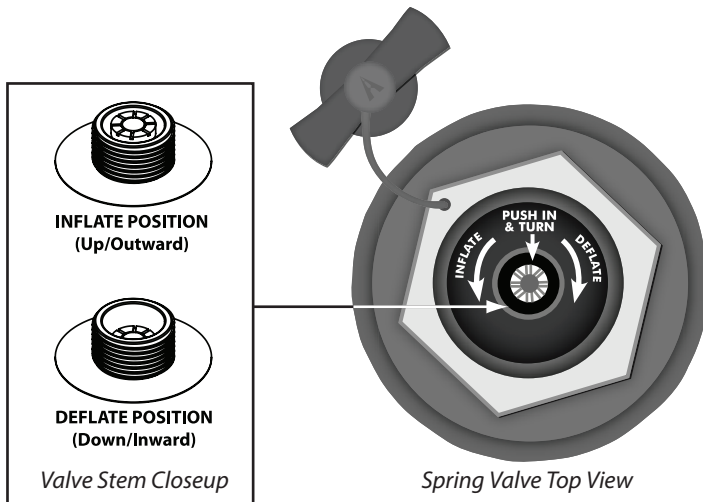

Figure 1. Inflate/Deflate Spring Valve
1. Starting with Main Chamber 1, check to be sure that the valve plunger is UP or in the INFLATE position (See Figure 1 on previous page).
1. Moving to Main Chamber 2 on the inside of kayak, check to be sure that the valve plunger is UP or in the INFLATE position (See Figure 1) and inflate until firm to touch (**2.0 psi ONLY**).
2. Push stems inward and rotate to deflate position (See Figure 1).